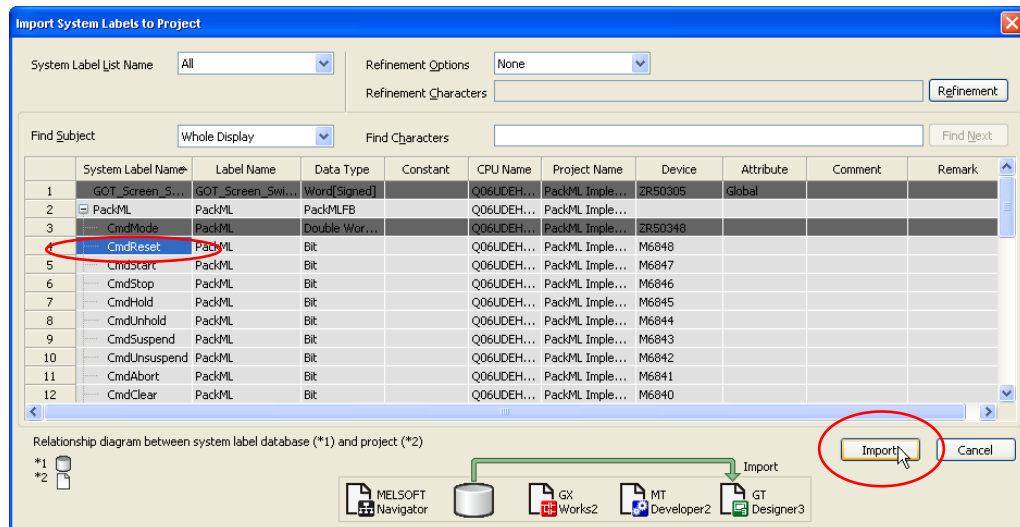

Figure 34 – Selecting System Label from the Database
- d. The system labels will be displayed in the table as shown in Figure 34. Select the proper system label to be used with the bit switch and click the “Import” button.